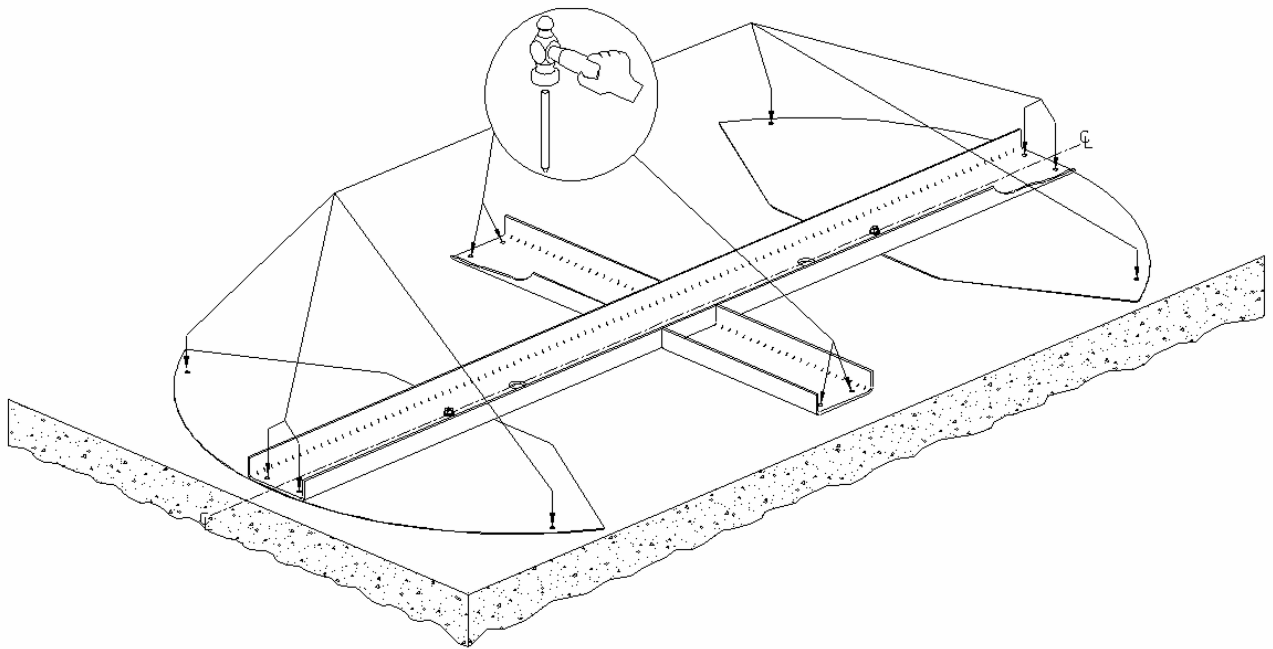

Figure 3
5. Making sure the assembly is held in place, mark location for twelve anchor stud holes using 1/2" center punch. Four holes for middle barrier posts, four holes for right side shield assembly and four holes for left side shield assembly. See Figure 3.